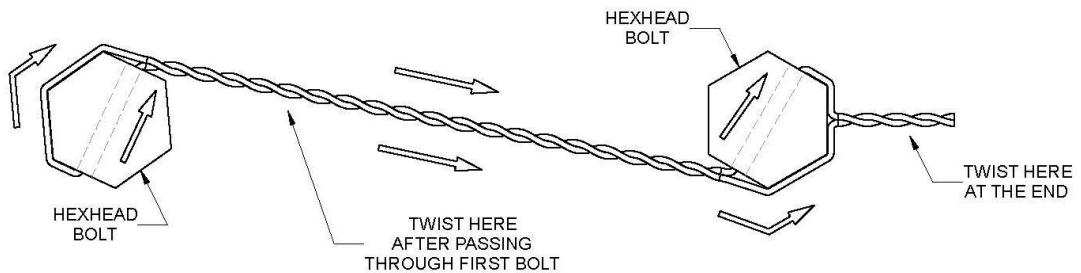

Figure 3
- ▶ All setting plate bolts and insert retainer screws that secure the slip setting ring and insert retainers shall be secured with safety wire to prevent them from backing out during operation. A minimum of **.032” stainless steel safety wire** is recommended. (See Figure 3)